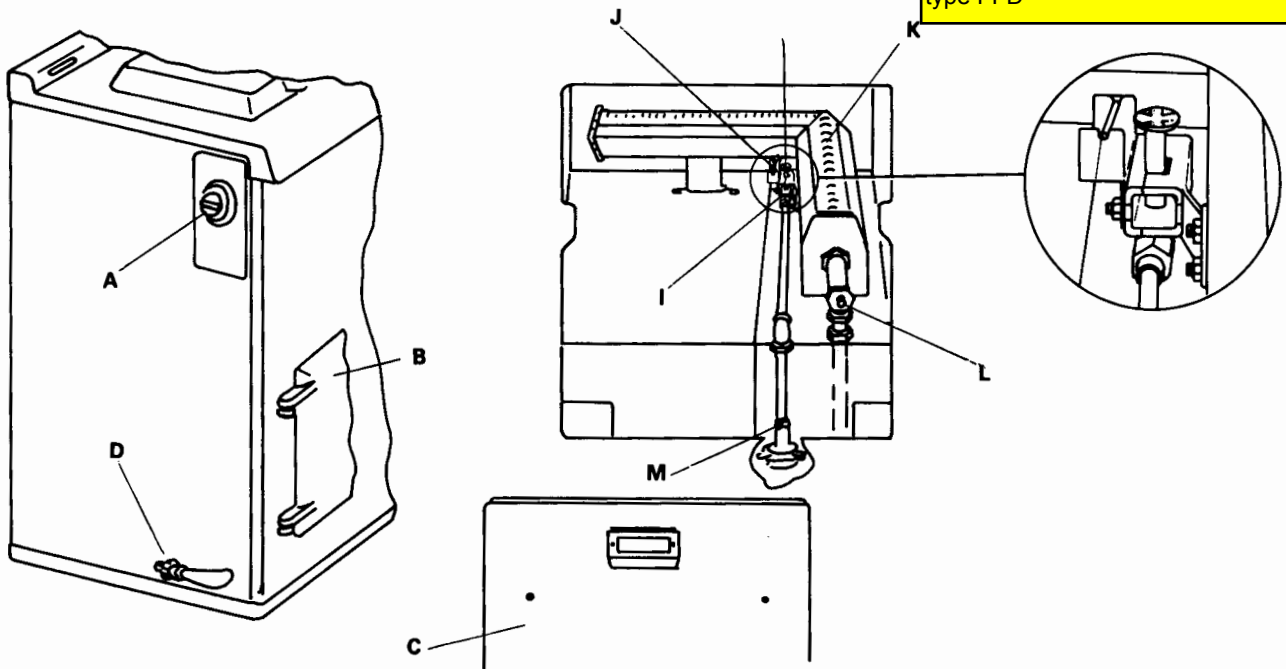

Fig. 6.
- 5.(a) Ensure appliance gas service cock **D** is **ON** with its squarehead slot in line with the pipework. See Fig. 6.
NOTE: SOME AIR MAY BE PRESENT IN PILOT SUPPLY TUBE. PURGE BY SLACKENING OFF PILOT BURNER TUBE NUT I (FIG. 6) AT PILOT BURNER, AND THEN RE-TIGHTEN.
8. Any adjustment of gas pressure can be obtained by the removal of the blanking plug covering the adjustment screw **M** (fig. 6) on the appliance gas governor below the combustion chamber.